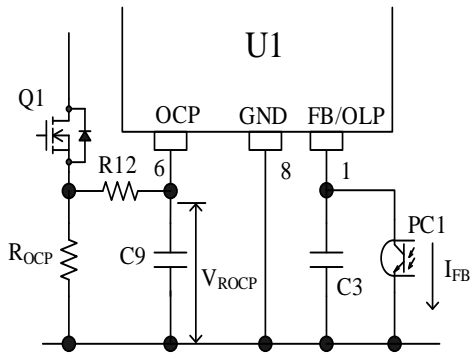
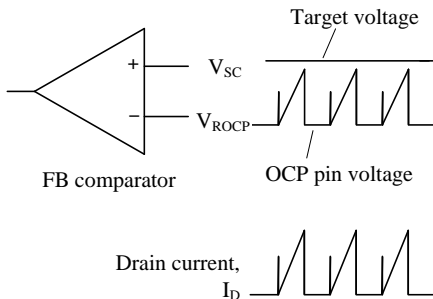

Figure 8-8. FB/OLP Peripheral Circuit
Figure 8-9. Drain Current, I_D , and FB Comparator Operation in Normal Operation
This IC compares the voltage, V_{ROCP} , of a current detection resistor with the target voltage, V_{SC} , by the internal FB comparator, and controls the peak value of V_{ROCP} so that it gets close to V_{SC} . V_{SC} is internally generated from the FB/OLP pin voltage (see Figure 8-8 and Figure 8-9).
- Add a CR filter with R12 and C9 to the OCP pin as shown in Figure 8-8.